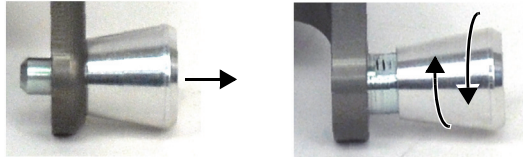

Figure 2-6 Pull out and rotate slightly to latch the link knobs to the open position.
4. Using the link knobs, assemble the selected links together (see Figure 2-6 on page 39).